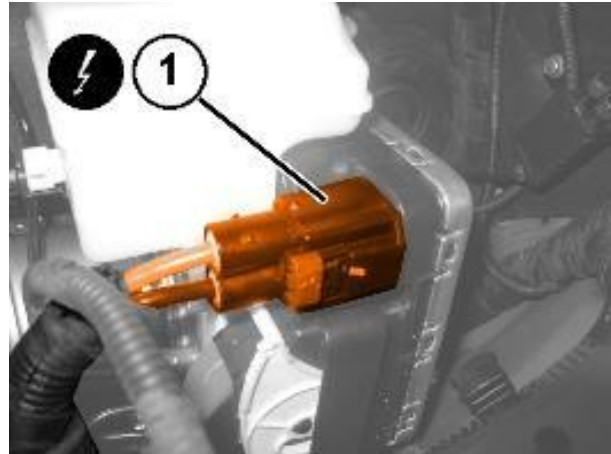

Figure 96 – Electrical Connector
40. Disconnect the electrical connection (1) of the ABS control module (Figure 96).